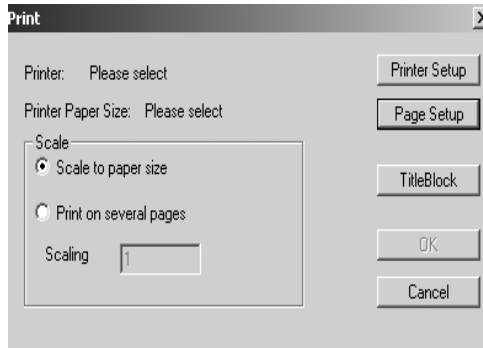

Fig 4.20
2. A dialogue box appears, as shown in Fig. 4.20, set the print requirements by the prompt setup ;